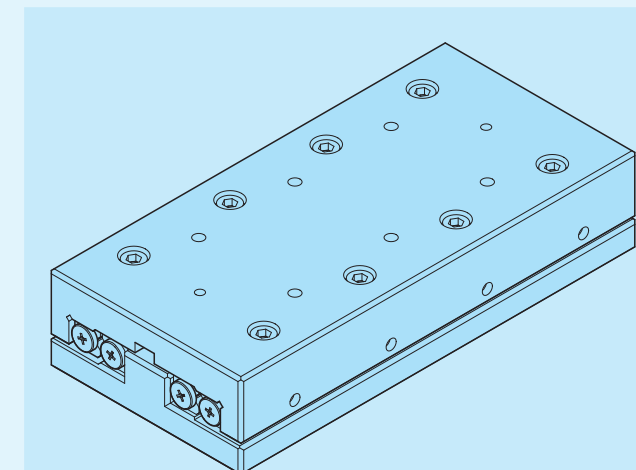

Fig. 22
- Temporarily tighten the table fixing screws. (Refer to Fig. 22)